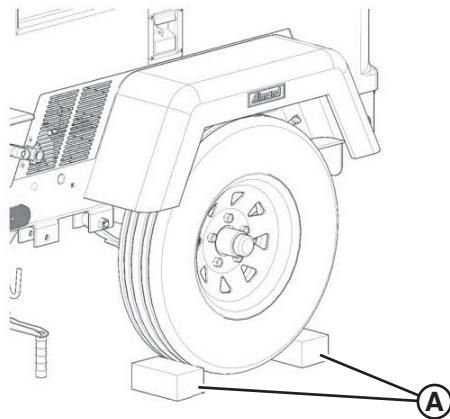

Figure 11
2. Block each wheel on each side with a suitable wheel chock (**A**, Figure 11).